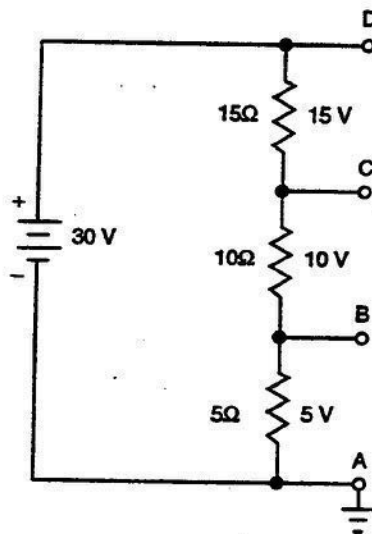

Figure 2-30. Simple voltage divider circuit.
**Simple voltage divider circuits.** As stated earlier, a voltage divider is used to obtain more than one voltage from a single power source. Let's calculate the electronic values for a common voltage divider such as the one depicted in figure 2-30.
With the values shown in figure 2-30, it is easy to see that we have a total resistance of 30 ohms. The applied voltage is 30 volts. By using Ohm's law ( $E = IR$ ), we find 1 amp of current develops a voltage of 5 volts across the 5-ohm resistor, 10 volts across the 10-ohm resistor, and 15 volts across the 15-ohm resistor. The voltage present at tap A with respect to ground is 0 volts. The voltage at tap B with respect to ground is 5 volts. The voltage at tap C with respect to ground is 15 volts ( $5V + 10V$ ). The voltage at tap D with respect to ground is 30 volts ( $5V + 10V + 15V$ ). Note the voltage at point D is also equal to the applied voltage. Thus, from one common power source, it is possible to obtain several different values of voltage.